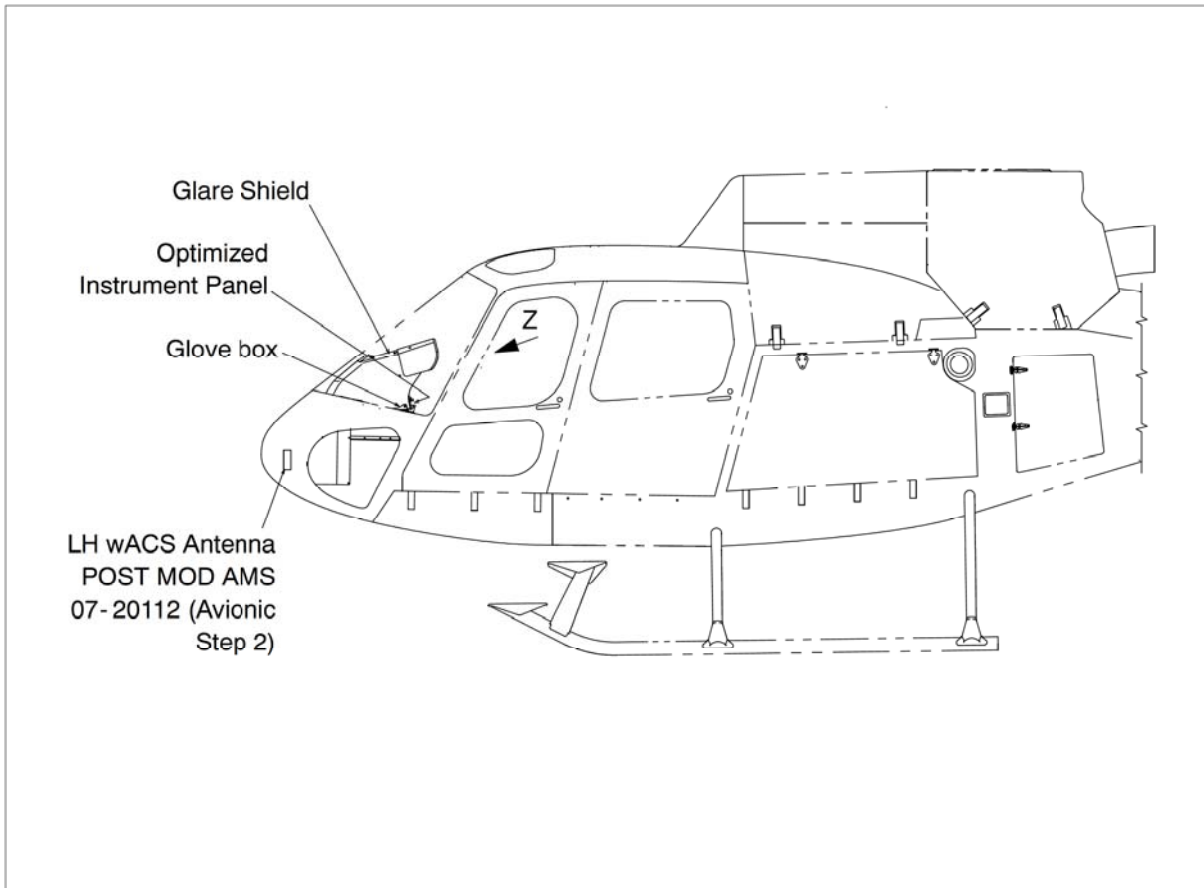

Figure 1 General Layout
- A. The subject Optimized Instrument Panel Installation is designed to replace the standard OEM I- Panel for aircraft POST MOD AMS 07- 4723 having G500H or later. The Instrument layout remains as per OEM layout and is cut out to match at installation. The open space obtained from installing the Optimized Instrument Panel is filled with a new, larger glove box. Refer to Figure 1.